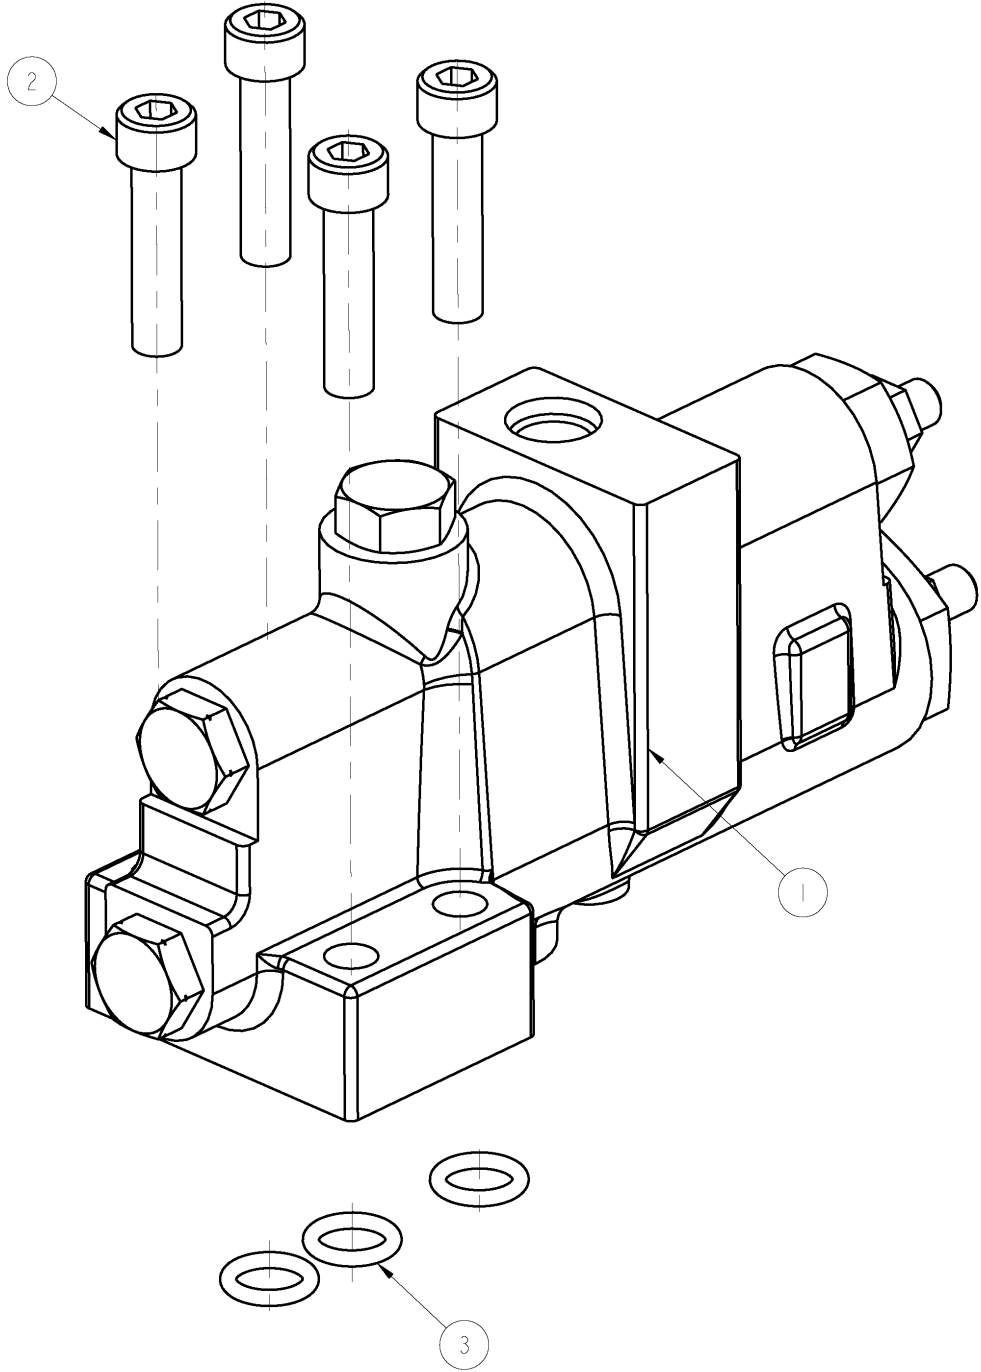

Figure 21
3. Remove the two screw plugs (Figure 21, item ⑰).
4. Take out the pressure compensator valve core (Figure 21, item ②) and the flow compensator valve core (Figure 21, item ⑮).
5. Remove the screw plug assembly (Figure 21, items ⑨ and ⑩), and take out the flow compensator spring seat (Figure 21, item ⑪), the flow compensator spring (Figure 21, item ⑫), and the limit pin (Figure 21, item ⑬).
6. Remove the screw plug assembly (Figure 21, items ⑥ and ⑤), and take out the pressure compensator spring seat (Figure 21, item ④) and the pressure compensator spring (Figure 21, item ③).
7. Remove the upper screw plug (Figure 21, item ⑭) and the damping plug (Figure 21, item ⑱).
1. Install the pressure compensator valve core (Figure 21, item ②) and the flow compensator valve core (Figure 21, item ⑮), with the round heads facing inward. The pressure compensator valve core has more ring grooves and is longer, while the flow compensator valve core has fewer ring grooves and is shorter.
2. Install two screw plugs (Figure 21, item ⑰) and tighten them with a torque of 29 - 32 Nm.
3. Insert the flow compensator spring seat (Figure 21, item ⑪), the flow compensator spring (Figure 21, item ⑫), and the limit pin (Figure 21, item ⑬).
4. Install the screw plug assembly (Figure 21, items ⑨ and ⑩), and tighten it with a torque of 75 - 83 Nm.
5. Insert the pressure compensator spring seat (Figure 21, item ④) and the pressure compensator spring (Figure 21, item ③).
6. Install the screw plug assembly (Figure 21, items ⑥ and ⑤), and tighten it with a torque of 97 - 106 Nm.
7. Install the upper screw plug (Figure 21, item ⑭) and tighten it with a torque of 29 - 32 Nm.
8. Install the damping plug (Figure 21, item ⑱) and tighten it with a torque of 1.7 - 2.3 Nm.